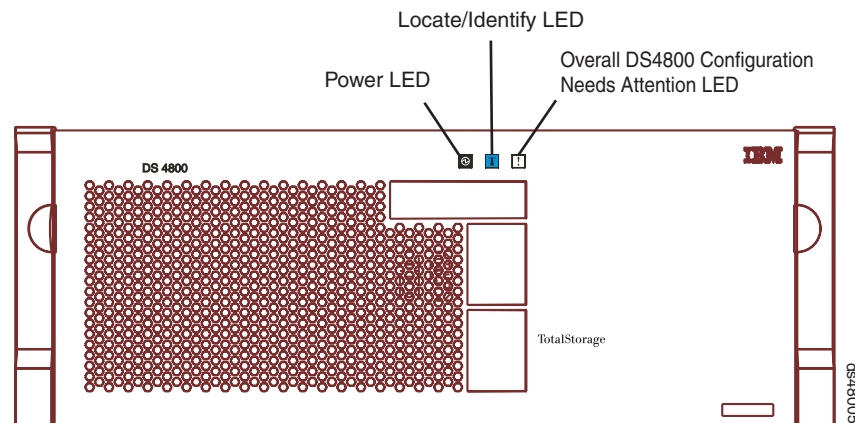

Figure 95. Overall DS4800 Configuration Needs Attention LED on the DS4800 front bezel
1. Locate the failed interconnect-battery unit by checking the Overall DS4800 Configuration Needs Attention LED on the front bezel of the storage subsystem. (Figure 95 shows the location of the Overall DS4800 Configuration Needs Attention LED on the front bezel.)